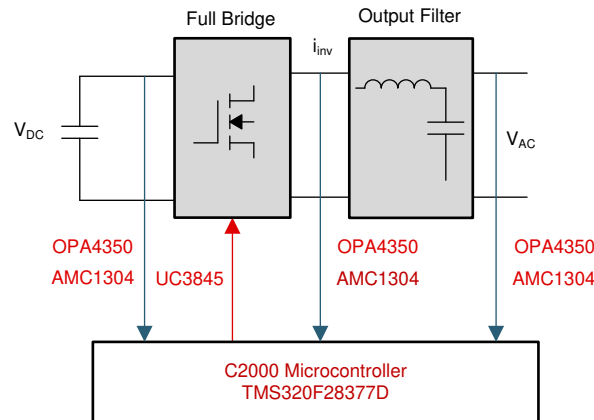

Figure 1. Typical Single Phase Inverter
A typical inverter comprises of a full bridge that is constructed with four switches, which can be modulated using pulse width modulation (PWM), and a filter for the high-frequency switching of the bridge, as shown in Figure 1. An inductor capacitor (LC) output filter is used on this reference design.